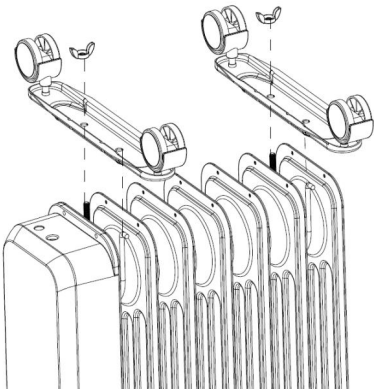

Figure 2 Castor Board Installation Diagram
- (1) Turn the heater upside down, and position the castor board between the end fins. Attach them to the U-bolts on the heater and tighten them using the wing nuts provided, shown in Figure 2;
- (2) Turn the heater right-side up.